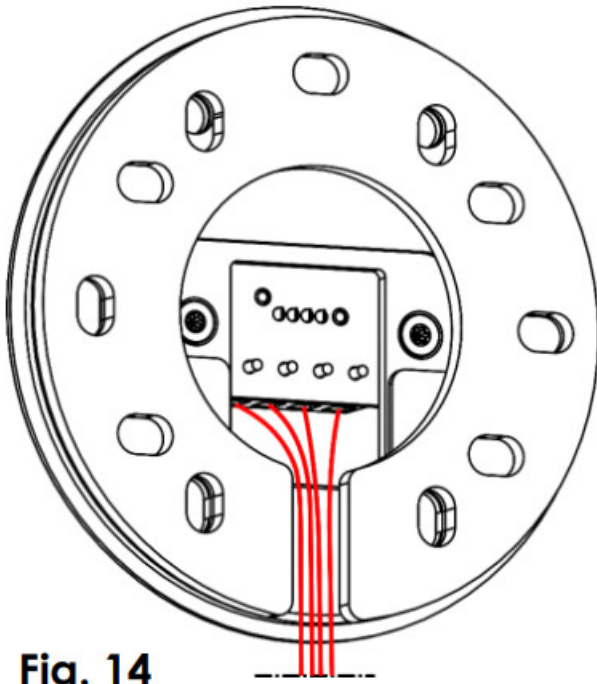
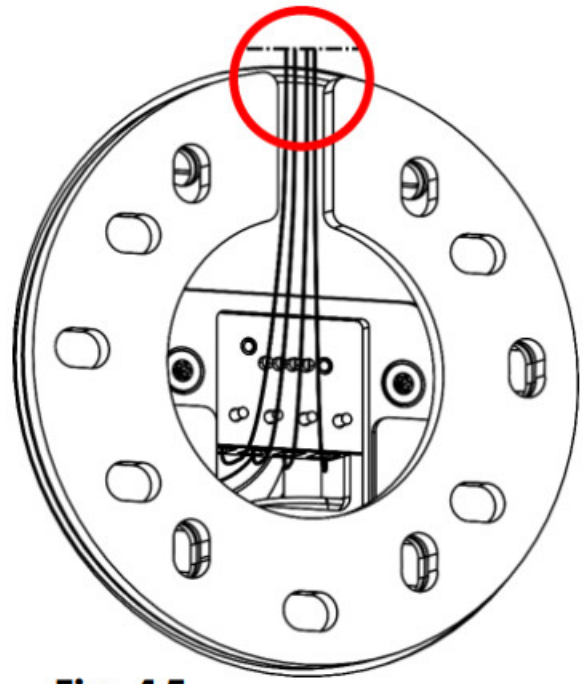

Fig. 14
Fig. 15
1. Hold the mounting plate (07), with the rubber gasket (08), against the wall, in such a way that all cables fit through the opening in the rubber gasket (08) (Fig. 14).
Make sure that the opening in the gasket is located at the bottom (Fig. 14). If, for any reason, such installation is not possible, seal the opening with a waterproof sealant to protect the device from the ingress of water (Fig. 15).